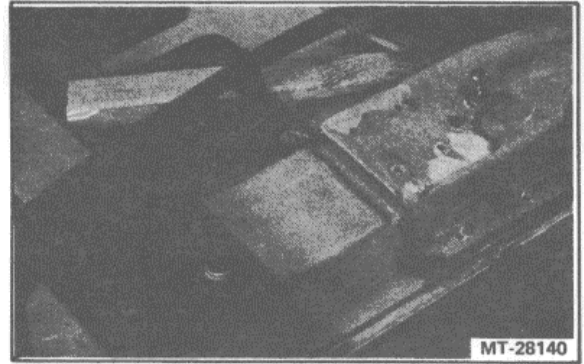

Figure 42. - Separating Panels
2. Separate fiber glass panels until the separation reaches the point where bonding is secure. Use wood block, screwdriver or putty knife, etc. to hold panels apart (Figure 42).